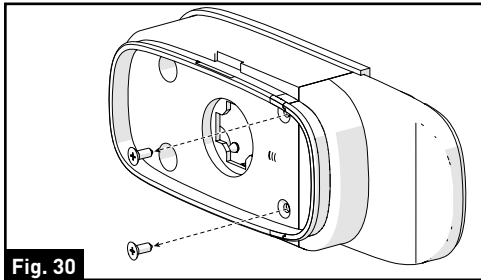

Fig. 30
3. Remove the two screws holding the decorative part using a Phillips screwdriver and set aside. (Fig. 30)